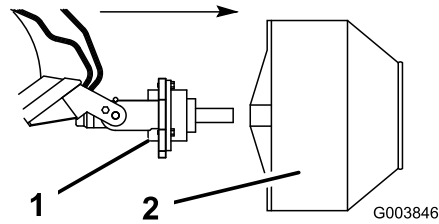

Figure 2
4. Maneuver the drive shaft into the collar on the back of the bowl (Figure 2).